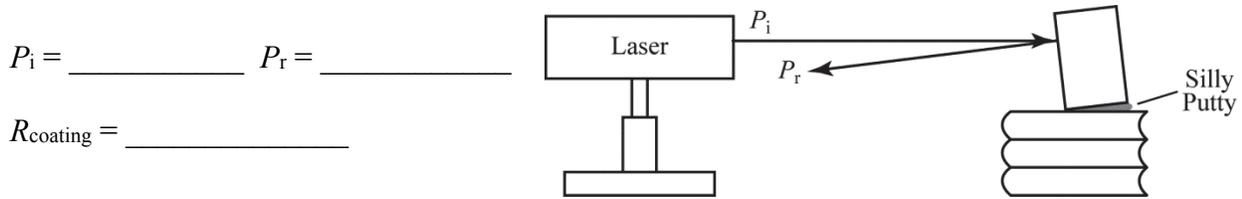

Figure 23 – Front Surface Mirror Power Measurements Set-up
- Using the V-Clamp mount for laser (LI-2), a 1.5" post (LI-5), and a 1.5" post holder (LI-4), mount the laser diode module (LI-1) to the optical breadboard (LI-3). Turn the laser diode module on. Most mirrors on the walls of bathrooms are rear surface mirrors. Using the 25 mm mirror (LI-6), identify the coated surface. Using books (LI-8) and silly putty (LI-9), position the mirror, such that the coated surface is facing the laser, at an angle where the fiber optics digital photometer (LI-7) can be used to measure the reflected power P_r . Refer to Figure 23.